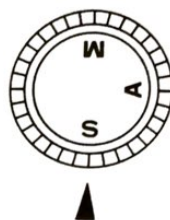
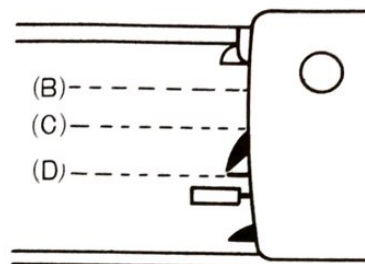

Fig. 12A
Fig. 12B
Turn the knobs so that 'S' is opposite the pointer (Fig. 12A), and you will notice that the tip of the Needle Guide Cam is now pointing towards the front of the machine and is forward of the needles in Working Position (C). (Fig. 12B)